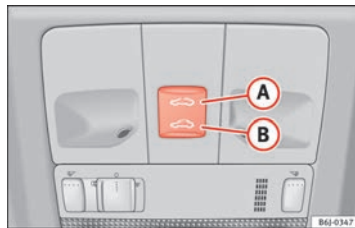

Fig. 58 Panoramic/tilting sunroof.
- Press and hold button **(B)** ⇒ Fig. 58 ⇒ . The roof starts to close until the button is released.